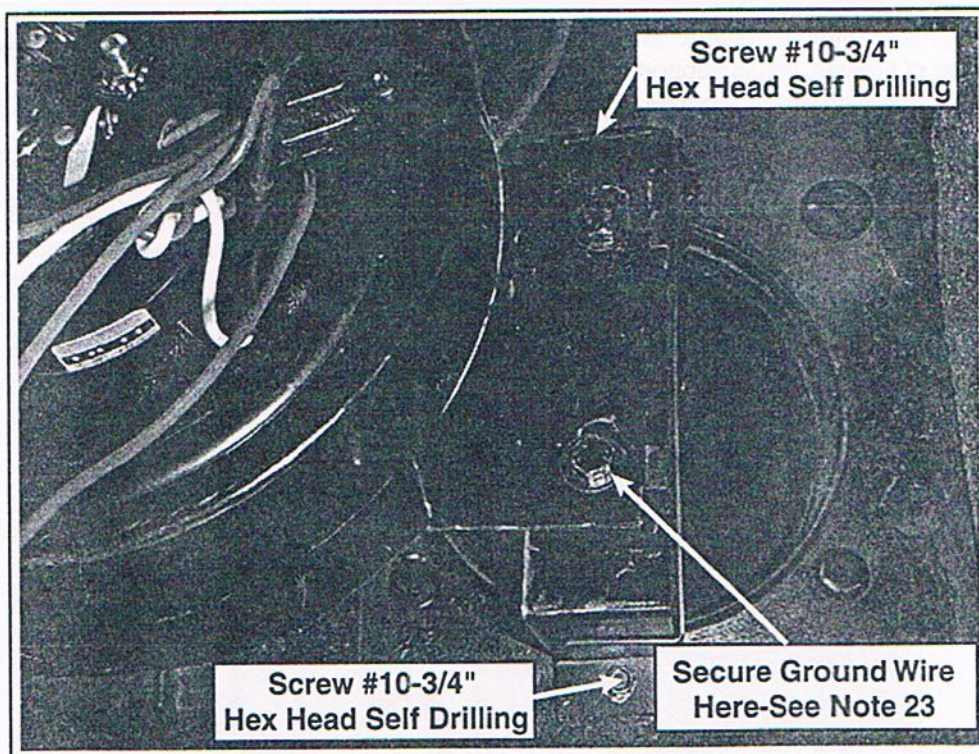

FIGURE 4
12. Temporarily install the evaporator into position desired, be sure evaporator is horizontal to bottom of dash. Secure the passenger side evaporator mounting bracket to firewall with hardware provided. (FIGURE 4)
23. From engine side of firewall, feed wire harness thru bottom hole of cover and run to control panel area. Secure wires to vacuum solenoids, blower plug and ground wire. Ground the black ring terminal to blower mounting bracket using one of the existing 1/4-20 mounting bolts. (FIGURE 4)